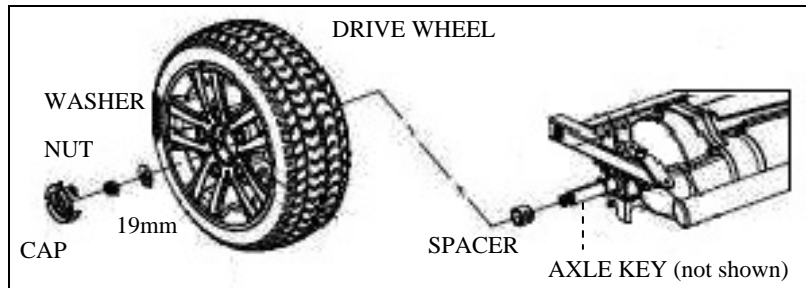

Figure 4. Drive Wheel
- 5) Remove the 19mm nut and washer that fastens the drive wheel to the axle. See figure 4.
- 4) Remove the nut and washer that fastens the drive wheel to the axle. See figure 4 on page 16.